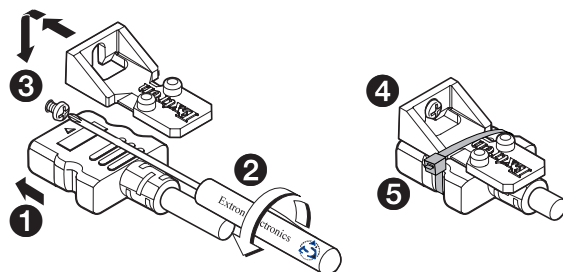

Figure 6. Installing the LockIt Lacing Bracket
1. Plug the HDMI cable into the panel connection (see figure 6, **1**).